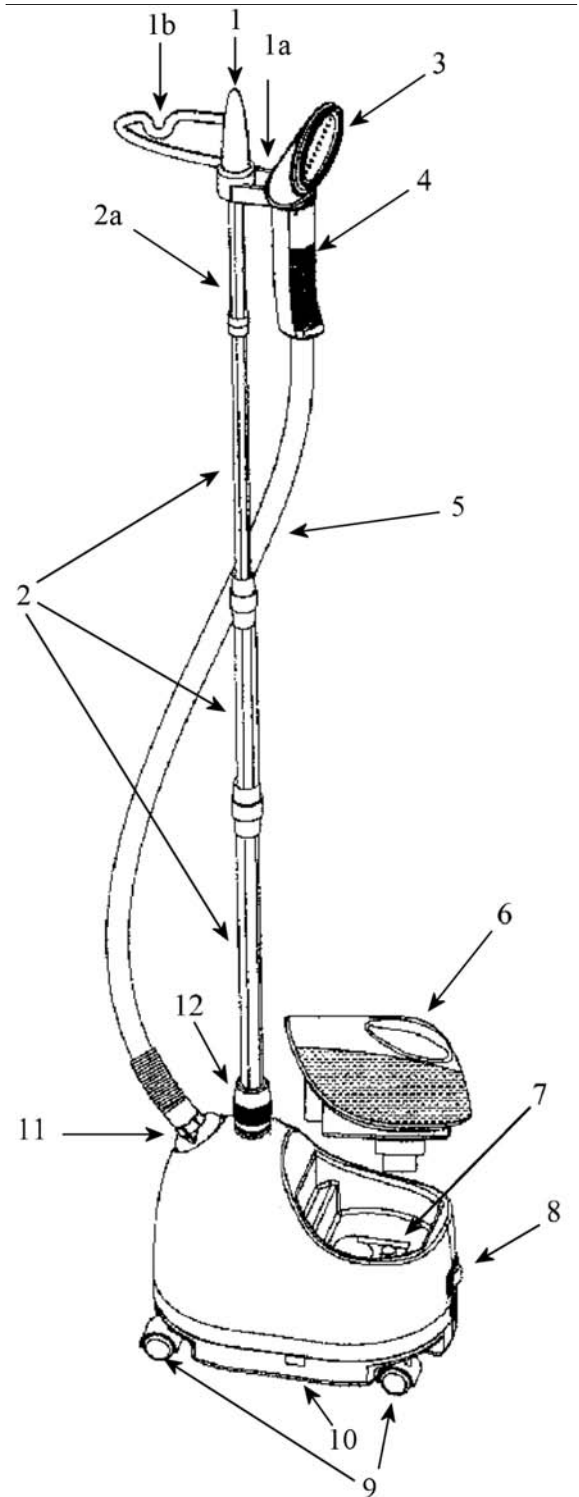
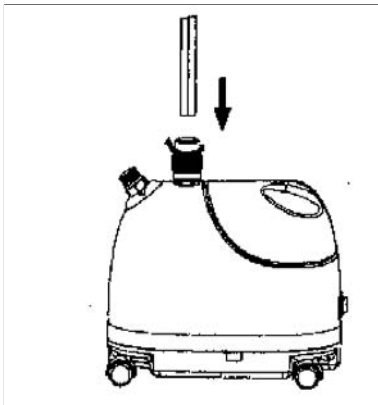

Figure 1
Figure 6
6. Insert the bottom of the *Telescopic Pole* into the *Pole Base* (see Figure 6) in such a way so that the *Steam Nozzle Holder* faces the rear of the steamer (see Figure 1). Pointing the *Steam Nozzle Holder* towards the rear will ensure the stability of the steamer when garments are hanging from the *Clothes Hanger Hook*.